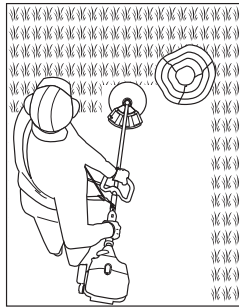

Fig. 15
- > Pay special attention when performing the work close to trees and bushes. The cutting attachment could damage sensitive bark, and damage fence posts (Fig. 15).